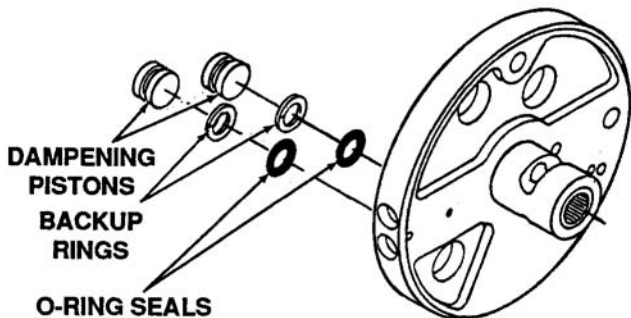

Figure 6-90. Removing Dampening Pistons
- d. To remove pistons, firmly tap the outside edge of pintle on a work surface. Remove backup ring and O-ring from pistons. See Figure 6-90.